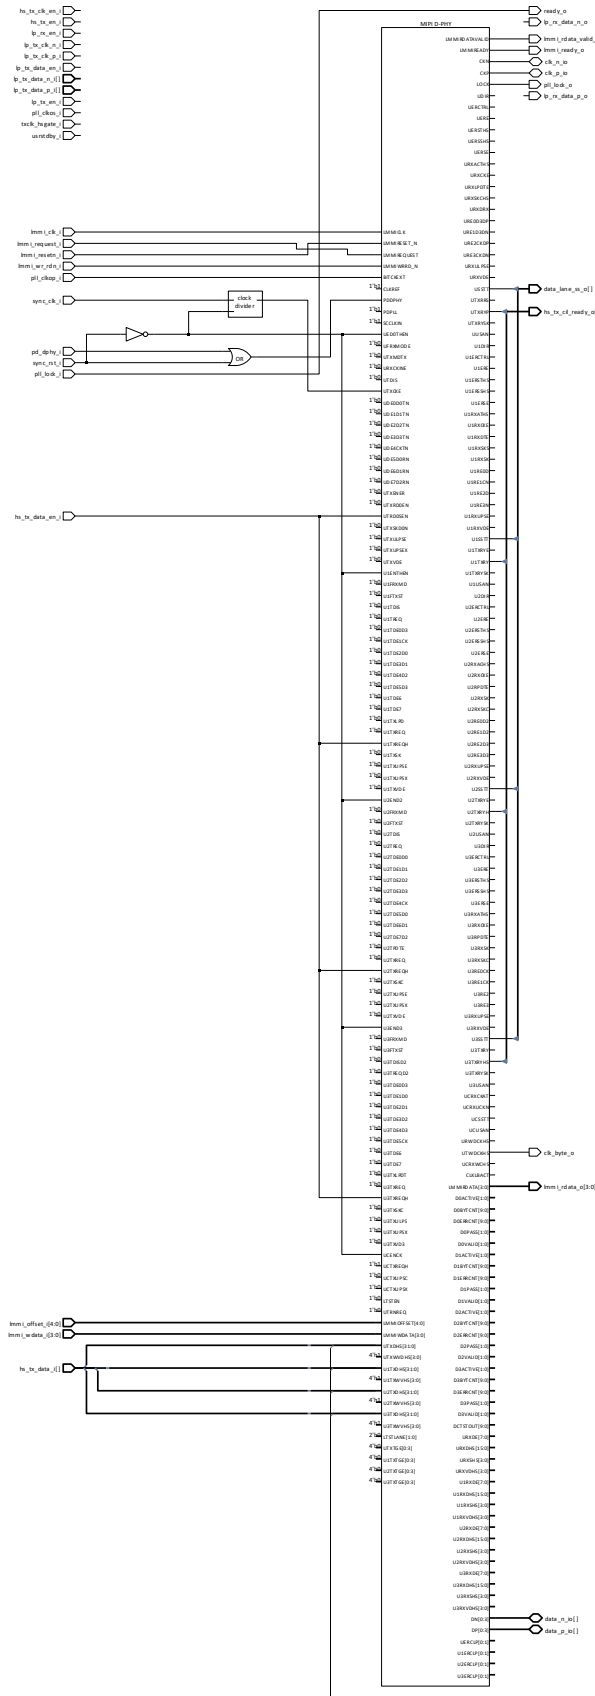

Figure 4.4. MIPI CSI-2 Transmit Interface with CIL – Hardened D-PHY Module
- Figure 4.3 and Figure 4.4 show the signals connected to the fabric when the Hardened D-PHY is configured for CSI-2 transmit mode. The Lattice Radiant Software IP Catalog user interface settings automatically powers down unused lanes of the Hardened D-PHY.